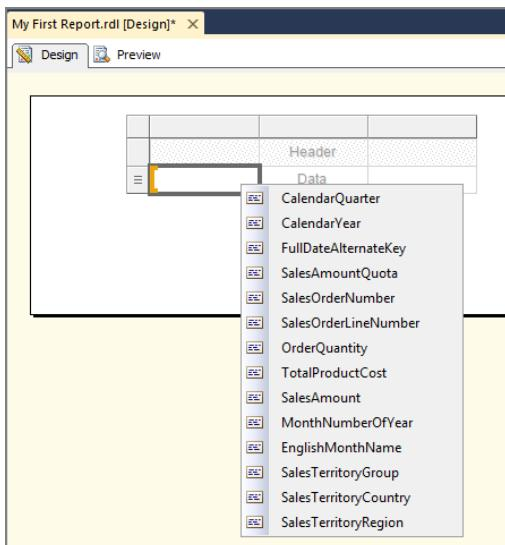

Figure 3-9
2. Click the data section of the table in the first column on the left. A small blue icon will appear. This icon will open a drop-down menu of all the columns in the dataset in the project as shown in Figure 3-9.